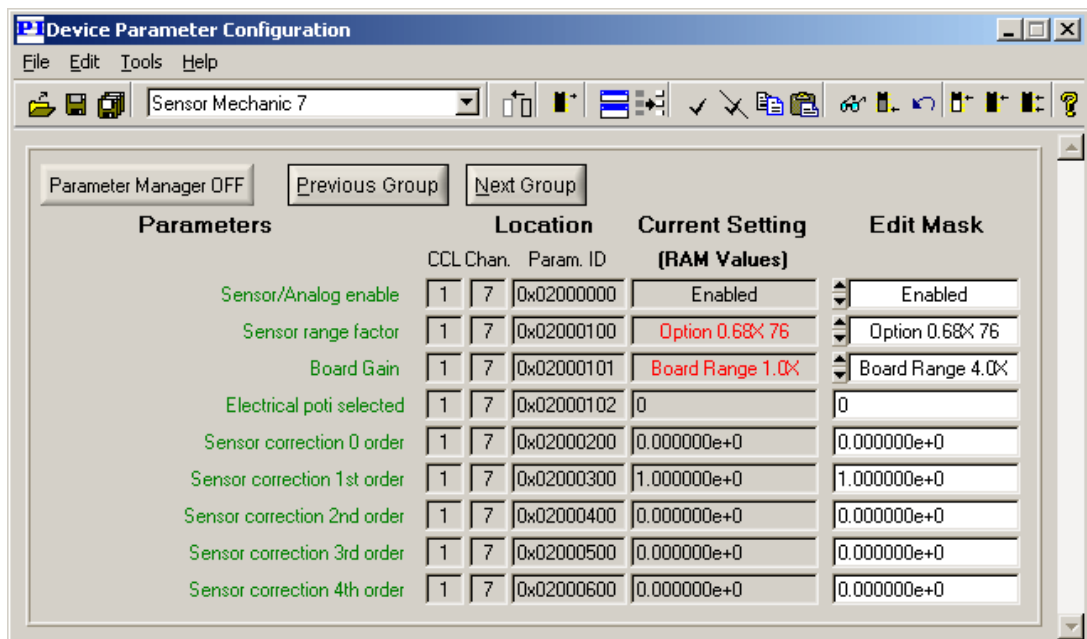

Fig. 49. Device Parameter Configuration window containing values that differ between current (RAM) and default setting (EEPROM).
- *Compare Current Setting with Default Setting* permits comparing RAM and EEPROM values for either the *current parameter type* or for all parameters, depending on what you selected in the associated submenu. The concerned current setting values are displayed in red if they differ from the corresponding default setting value as in Fig. 49 .